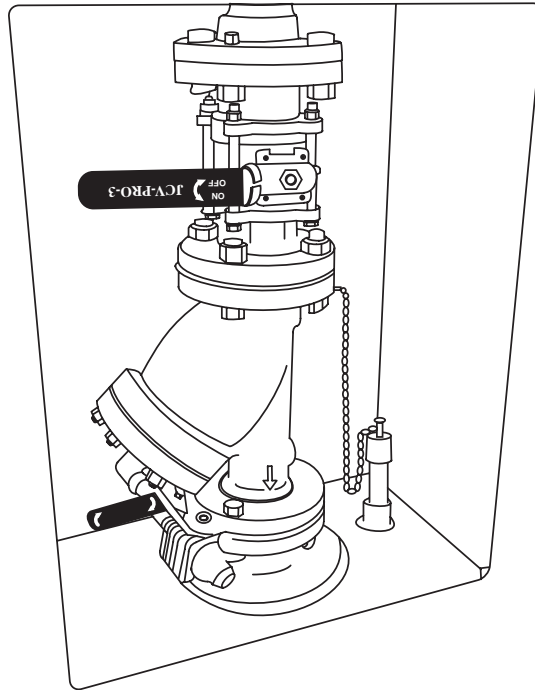

Figure 8. Engine Room Water Washdown Station
The purpose of the ERWWS (figure 8) is to quickly reduce the temperature in the protected space to minimize the production of Hydrogen Fluoride (HF) gas generated as a result of FM-200 agent contact with hot surfaces and flame above 1,300 °F (704.4 °C). The sprinkler water also acts to keep smoke particulate down and expedites ventilation of the compartment when the fire is extinguished. The ERWWS is not designed or intended to be a stand-alone fire extinguishing system. It is designed to be used in conjunction with the installed FM-200 fire suppression system. Use of the ERWWS reduces the risk of HF exposure by reducing temperatures within the protected space.